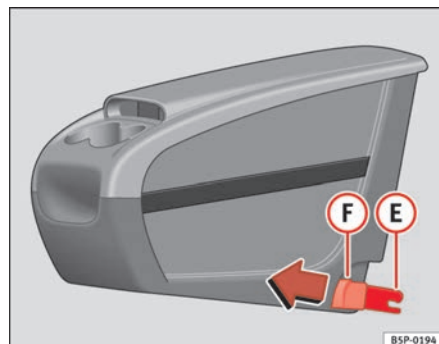
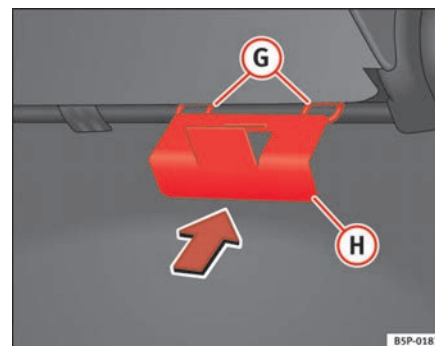

Fig. 111 Mobile stowage compartment installation
Fig. 112 Mobile stowage compartment mounting plate
- Fit the mobile stowage compartment mounting plate ⑧ ⇒ fig. 112 from the inside of the vehicle, through the rear section of the seat. It should be fitted between the back rest and the seat, in the central seat area.
- Set both mounting pieces together (E) ⇒ page 140, fig. 111, with both mounting rings (G) ⇒ page 140, fig. 112 and press hard until both the clips completely connect with the rings.
- Pull each of the buttons ⇒ page 140, fig. 111 (F) on the clips (red buttons) forwards, until they snap out of place.